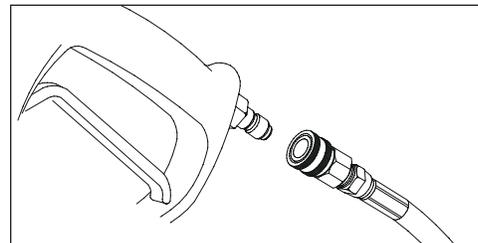

Figure 2 - Connect Hose to Spray Gun
- Uncoil high pressure hose and attach quick connect end of hose to the base of the spray gun (Figure 2). Pull down on the collar of the quick connect, slide onto the spray gun and let go of collar. Tug on hose to be sure of a tight connection.